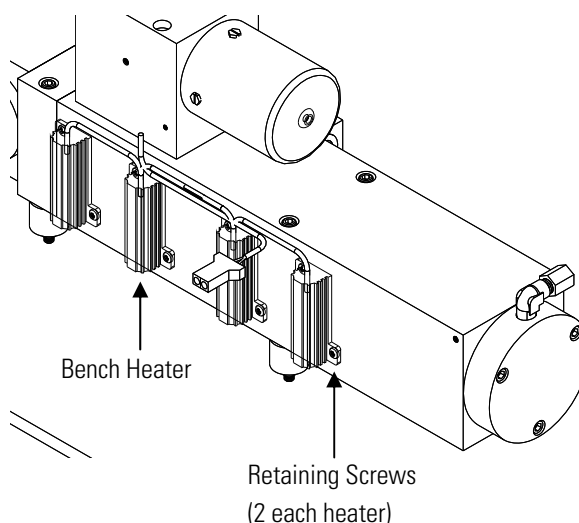

Figure 7–14. Replacing the Heater Assembly
Use the following procedure to replace the heater assembly (**Figure 7–14**).
3. Using the 5/32-inch wrench, remove the four screws securing the optical bench to the floor plate. (**Figure 7–5**)
Use the following procedure to replace the thermistor (**Figure 7–15**).